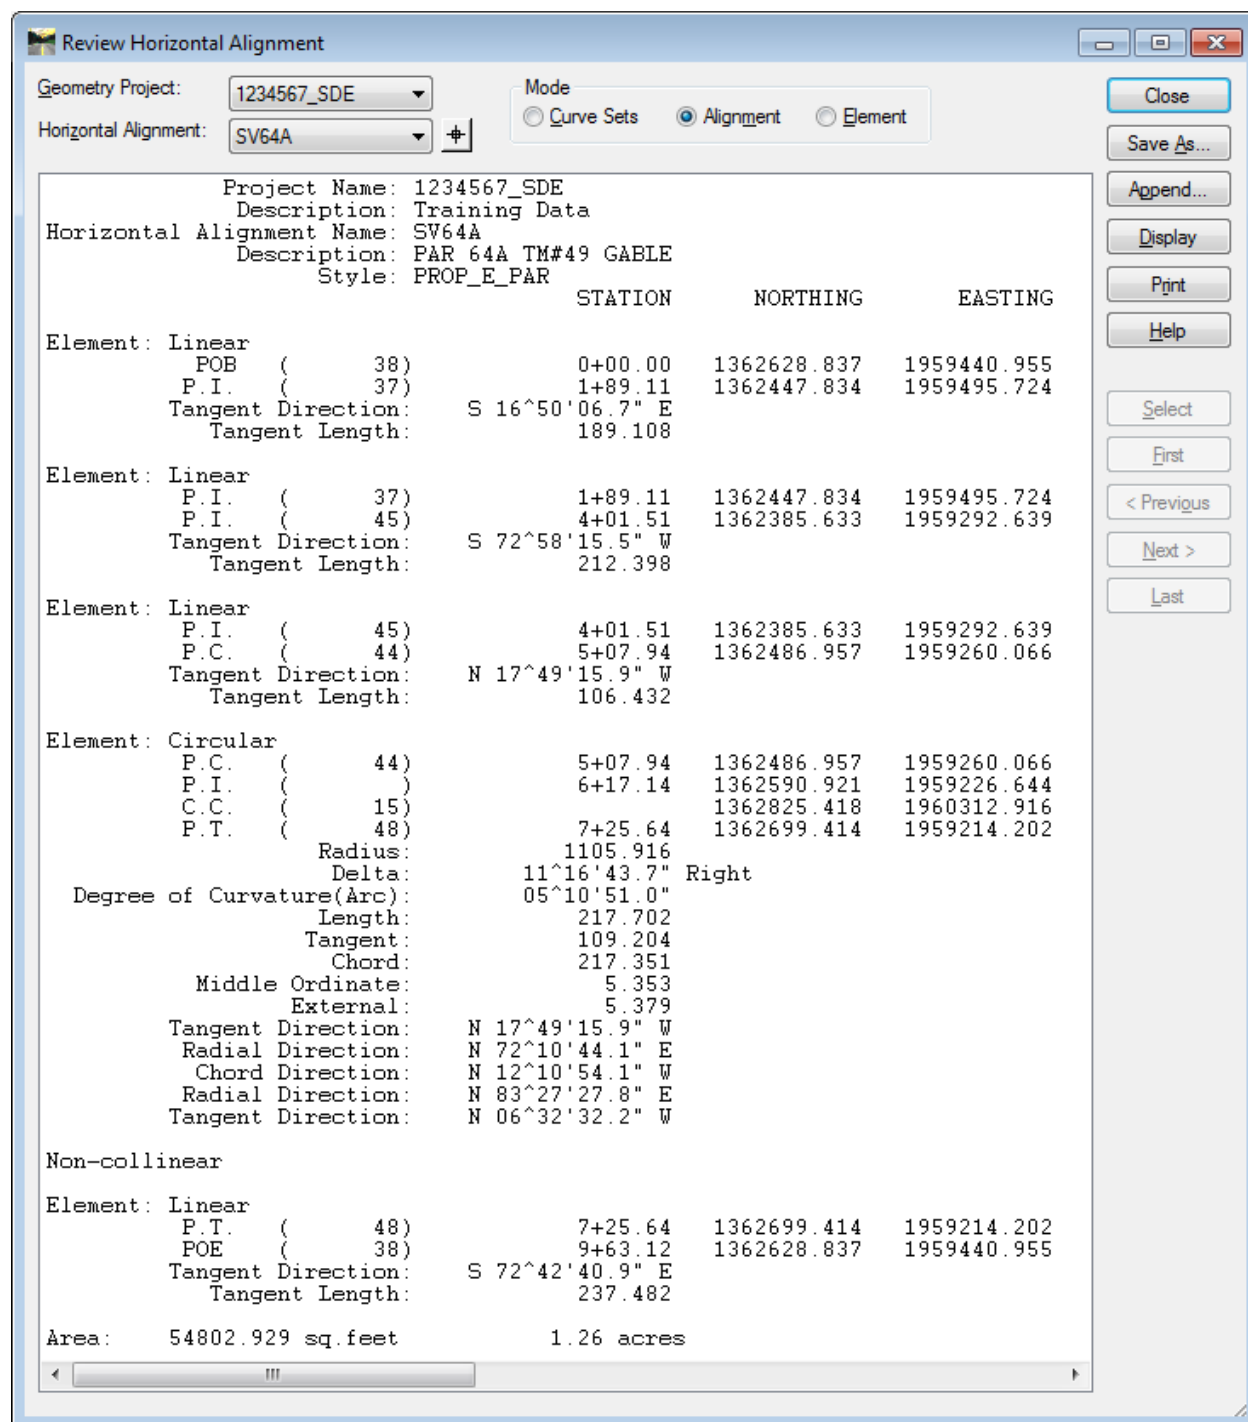

Figure L13-25 Review Horizontal Alignment
- Select **Geometry ► Review Horizontal...** The **Review Horizontal Alignment** results window opens as shown in *Figure L13-25*.